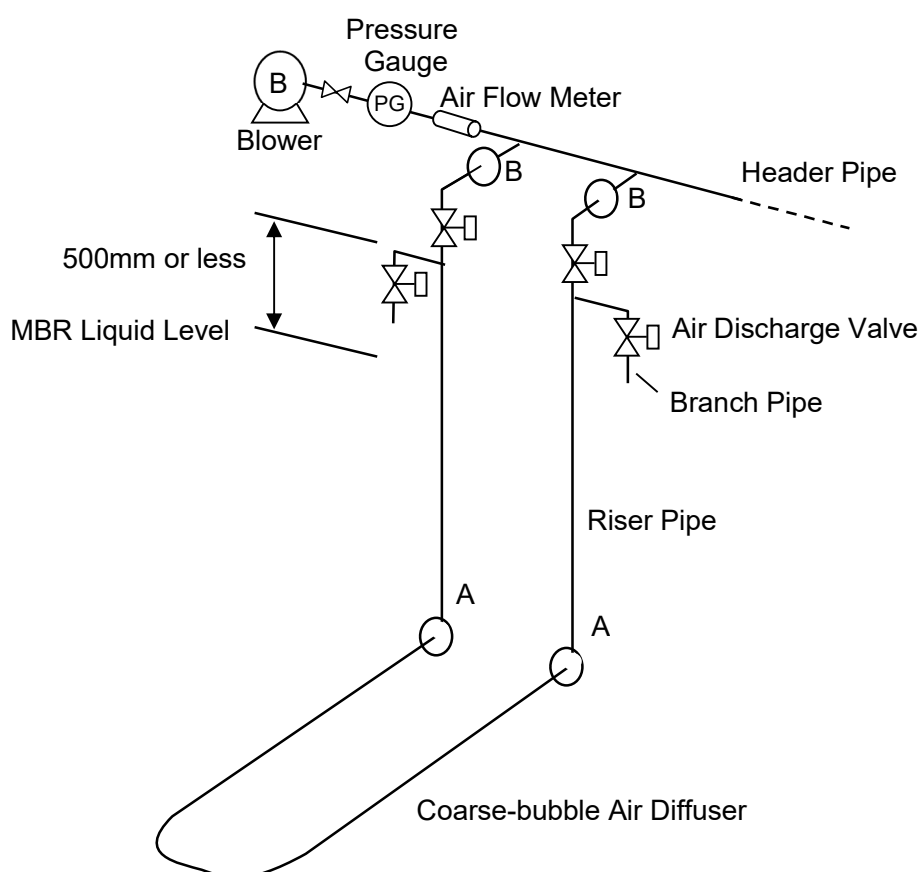

Figure IV-9: Corse-bubble Air Diffuser Configuration Example (Per Module)
Connect two flanges (A) located on the coarse-bubble air diffuser at one side of an aeration block and the header pipe from the air supply device (blower) by using the riser pipes. Also, install a branch pipe and air discharge valve for cleaning to the riser pipe. It is also necessary to install an air flow meter and control valve and recommended installing a pressure gauge in the air supply to check the conditions of the blower and air diffuser. Refer to Figure IV-9 and see Figure VIII-2 for the procedure for cleaning the air diffusers.